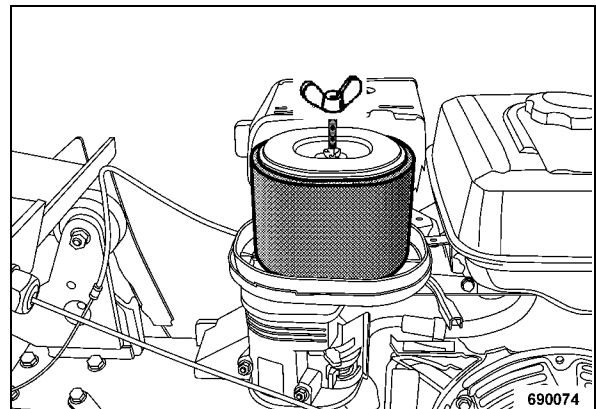

Fig. 46
- Unscrew the wing nut and remove the air filter (Fig. 46).